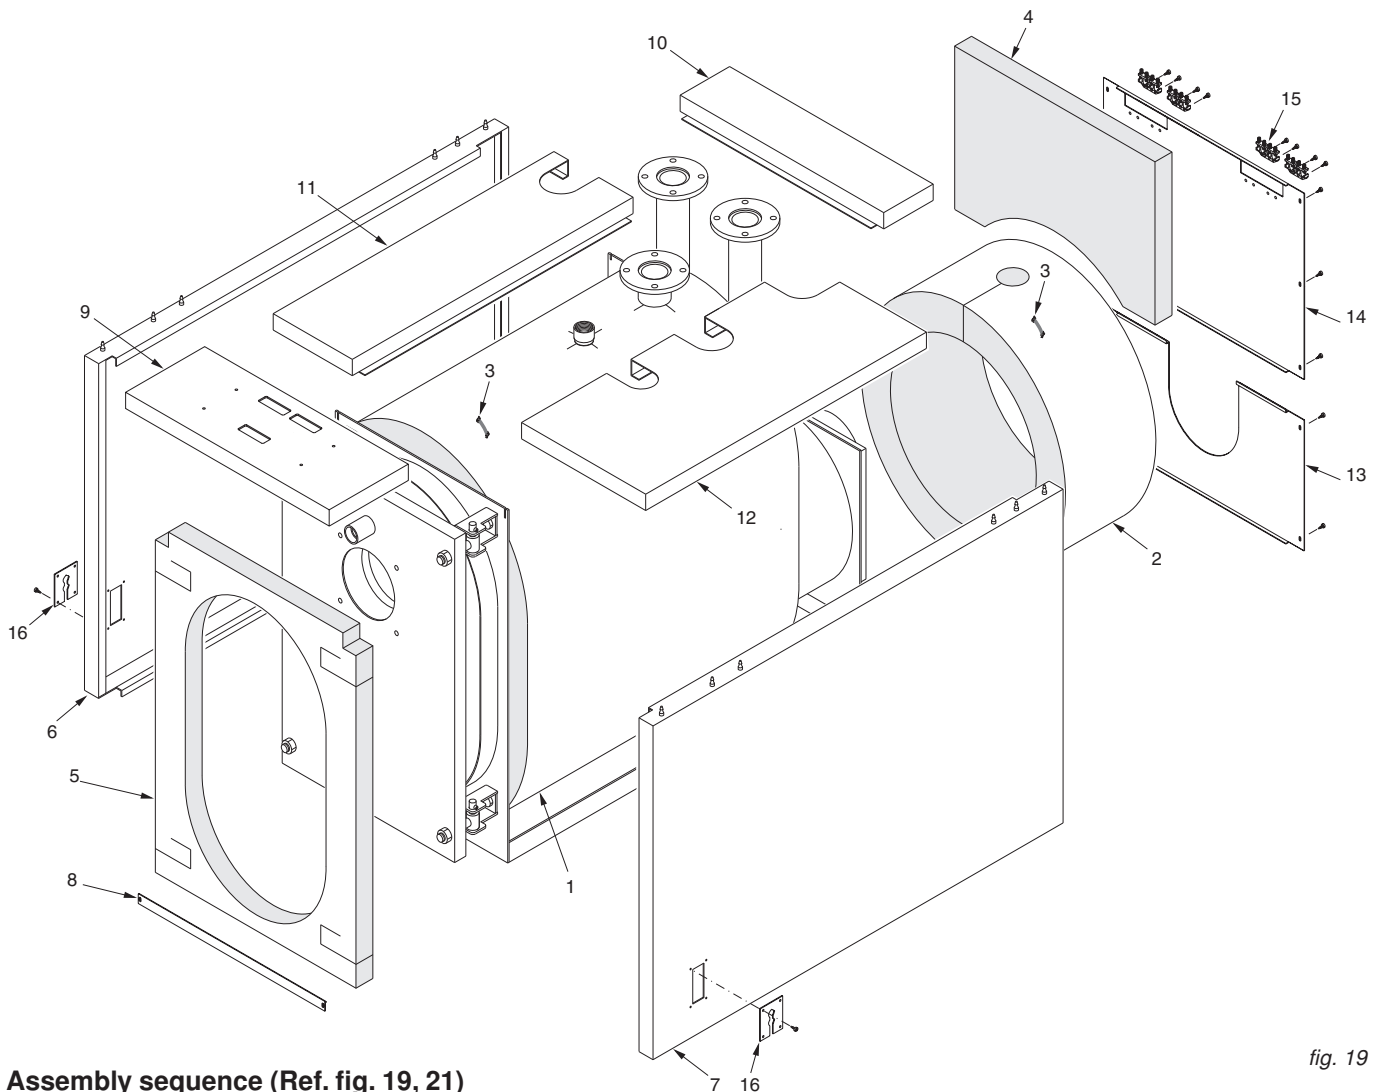

fig. 19
N.B. For models from **XC-K 480 to XC-K 2160** (ref. fig. 19 and 20), the casing and insulation are contained in 3 boxes marked:
Assembly sequence (Ref. fig. 19, 21)